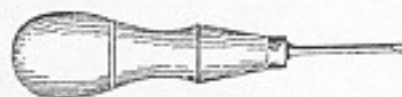

Fig. 164. Bradawl.
4. The brace must be held steady while boring because bits of small diameter break easily. A wooden block also may be used as a gauge on these bits (Art. 59). A small hole made with an awl (Fig. 164) will help to center the bits when many holes are to be bored.
64. Boring with a Bradawl. A bradawl looks more like a small screw driver than a boring tool (Fig. 164). It is used to bore holes for